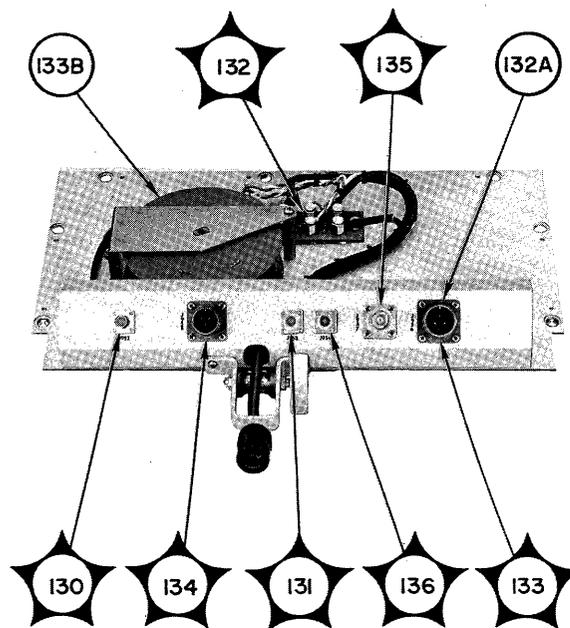

Figure 5-76. Converter Blister,
f. CONVERTER BLISTER TROUBLE-SHOOTING CHART.—Table 5-18 is the trouble-shooting chart for the converter blister. Use the lowest resistance range of the multimeter to measure circuit continuity and the highest range to find high-resistance leakage between normally open circuits. Make measurements at patchable connector J601 with P951 plugged into blister connector J951. Perform the steps in the order given, compare the results with those in the NORMAL INDICATION column, and follow the instructions given in the NEXT STEP column. Figure 5-76 shows the location of test points.